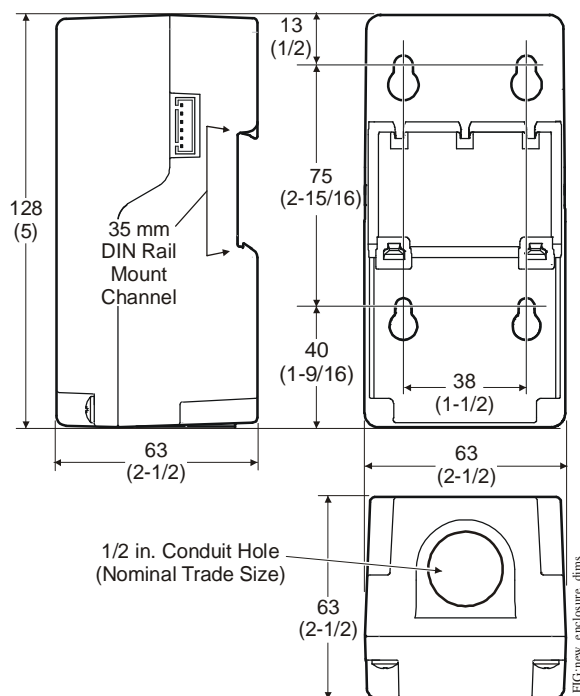

Figure 1: System 450 Module Dimensions, mm (in.)
1. Plug the modules together, remove the module covers, place the assembly against wall surface horizontally in a suitable location and mark the mount hole locations on the surface (Figure 1).